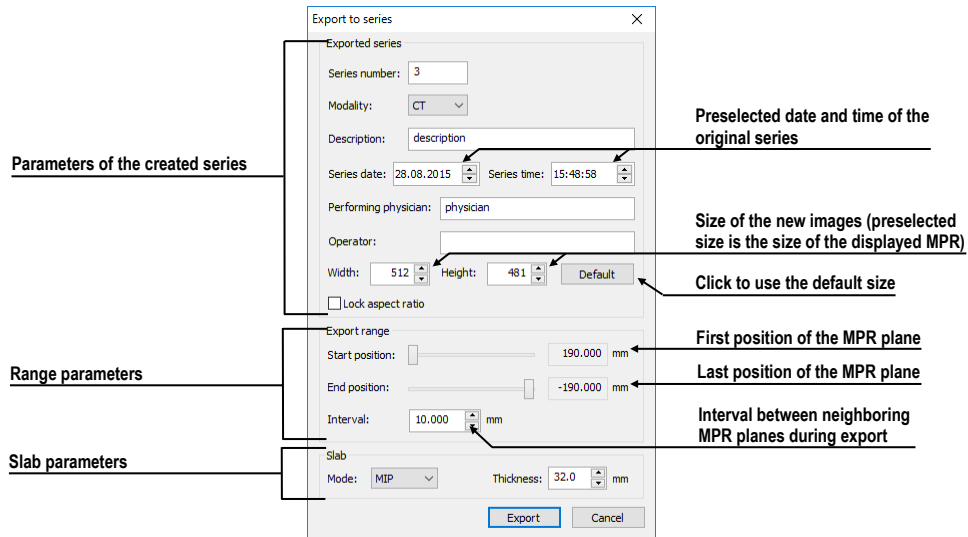

Figure 291 – Export to series dialog
3. The **Export to series** dialog will be displayed in which you can set the parameters for MPR export (see Figure 291).